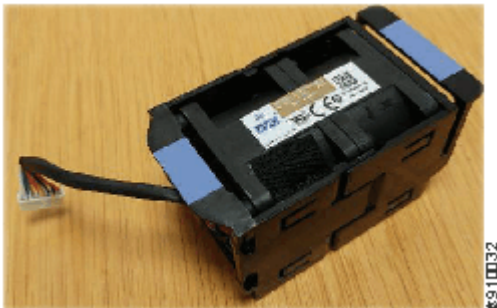

Figure 102. Replacement fan module
- Remove the replacement fan module from its packaging. Figure 102 on page 142 shows an example of a fan module.